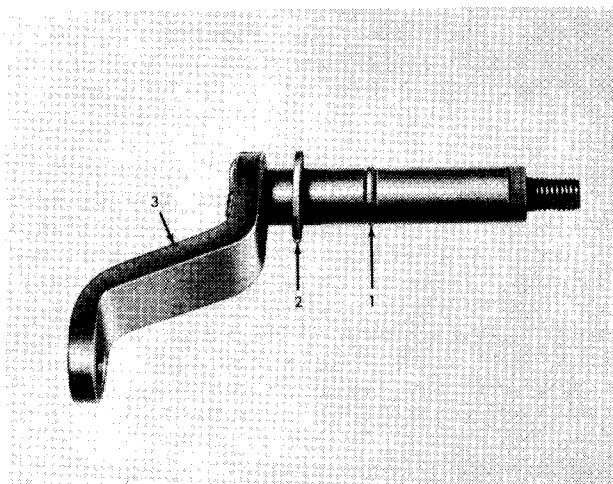

FIG. 2
6. Remove the "O" ring seal (1, Fig. 2) from the groove in the selector control shaft (3) and then remove the flat washer (2) from the shaft.
3. Lubricate the selector control shaft and new "O" ring seal, Part No. 529678, with 10W engine oil. Slide a new flat washer (2, Fig. 2), Part No. 529679, over the selector control shaft. Install the new "O" ring seal (1) in its groove on the selector shaft.